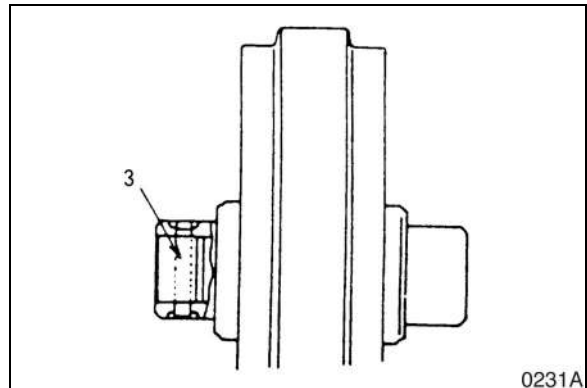

Figure 28
5. Install idler (7, Figure 28) on the axle.
6. Install bearing (1, Figure 28) and pin (3) to the axle.